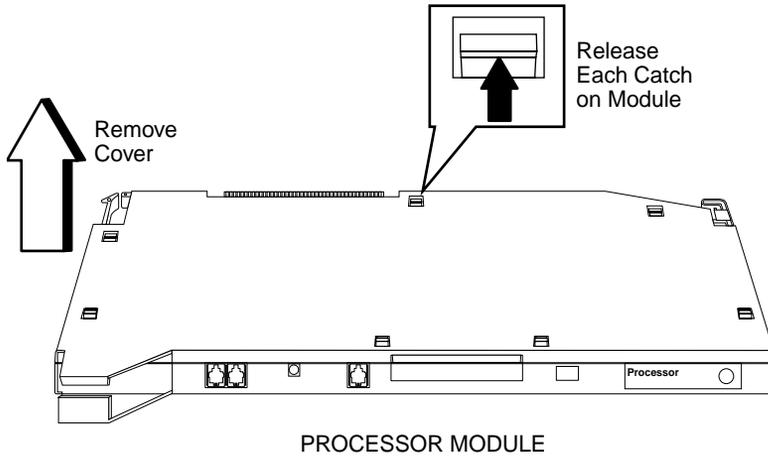

Figure 9-5. Removing the Processor Module Cover
- ▶ 5. Unclip and remove the left side panel. See Figure 9-5.